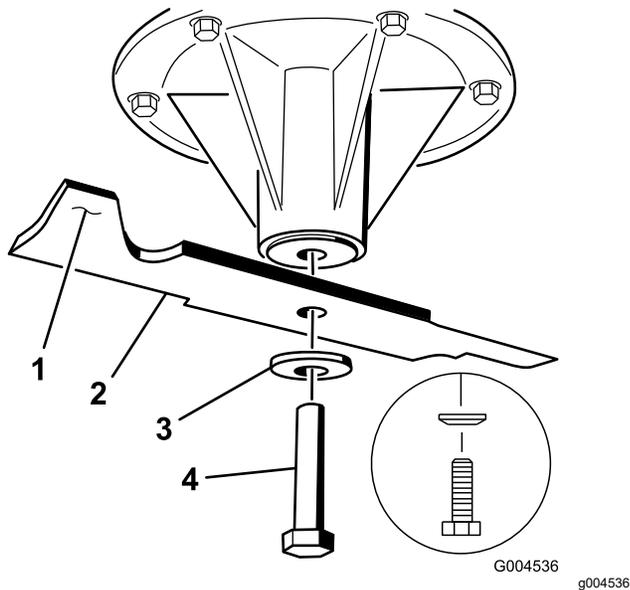

Figure 112
1. Install the blade onto the spindle shaft (Figure 112).
2. Install the spring disk and blade bolt (Figure 112).
Note: The spring-disk cone must be installed toward the bolt head (Figure 112).